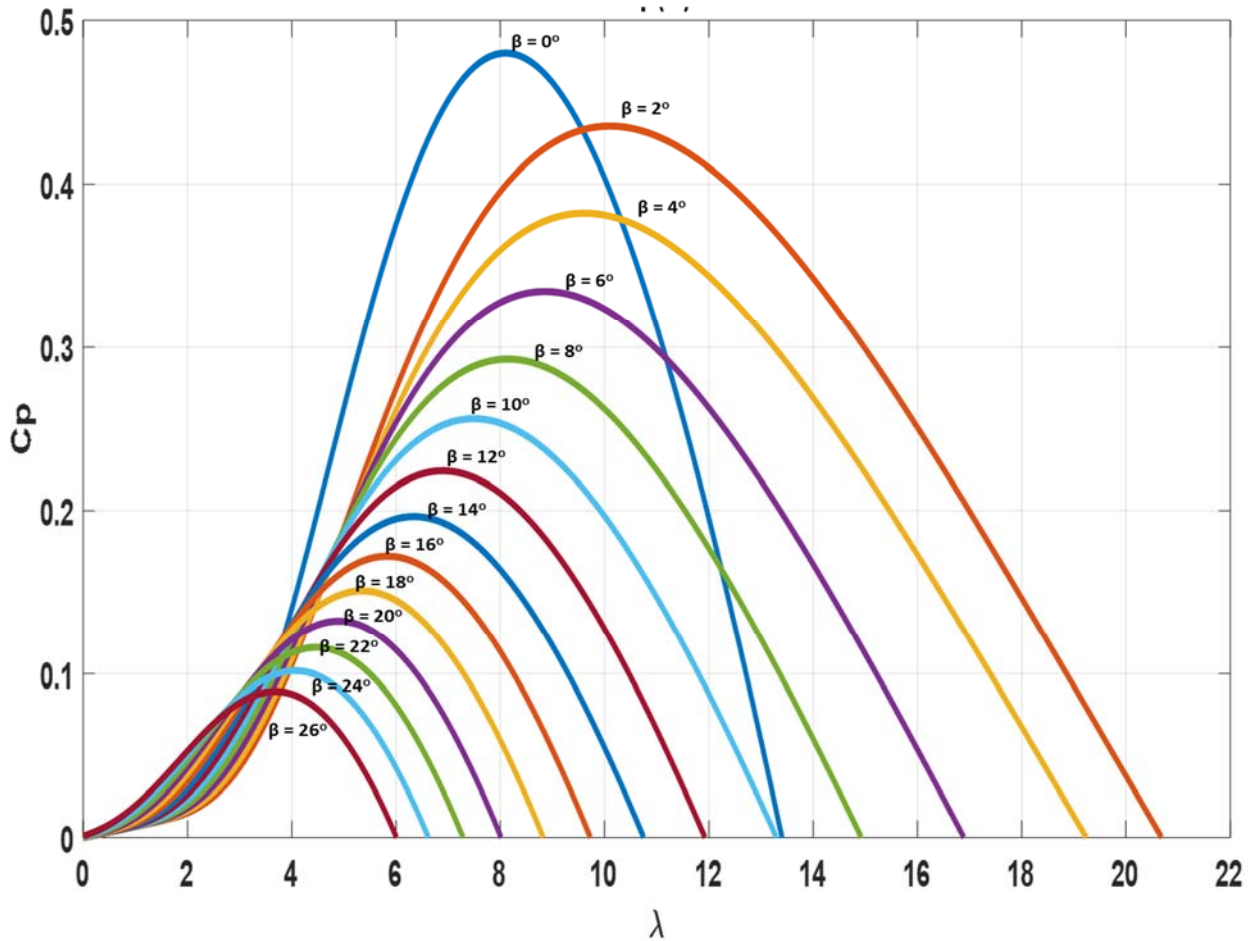

Fig.1 Cp vs. λ
1. Assume the generator efficiency to be 90%, blade radius of 40m, and with the help of Fig.1, fill out the following table: